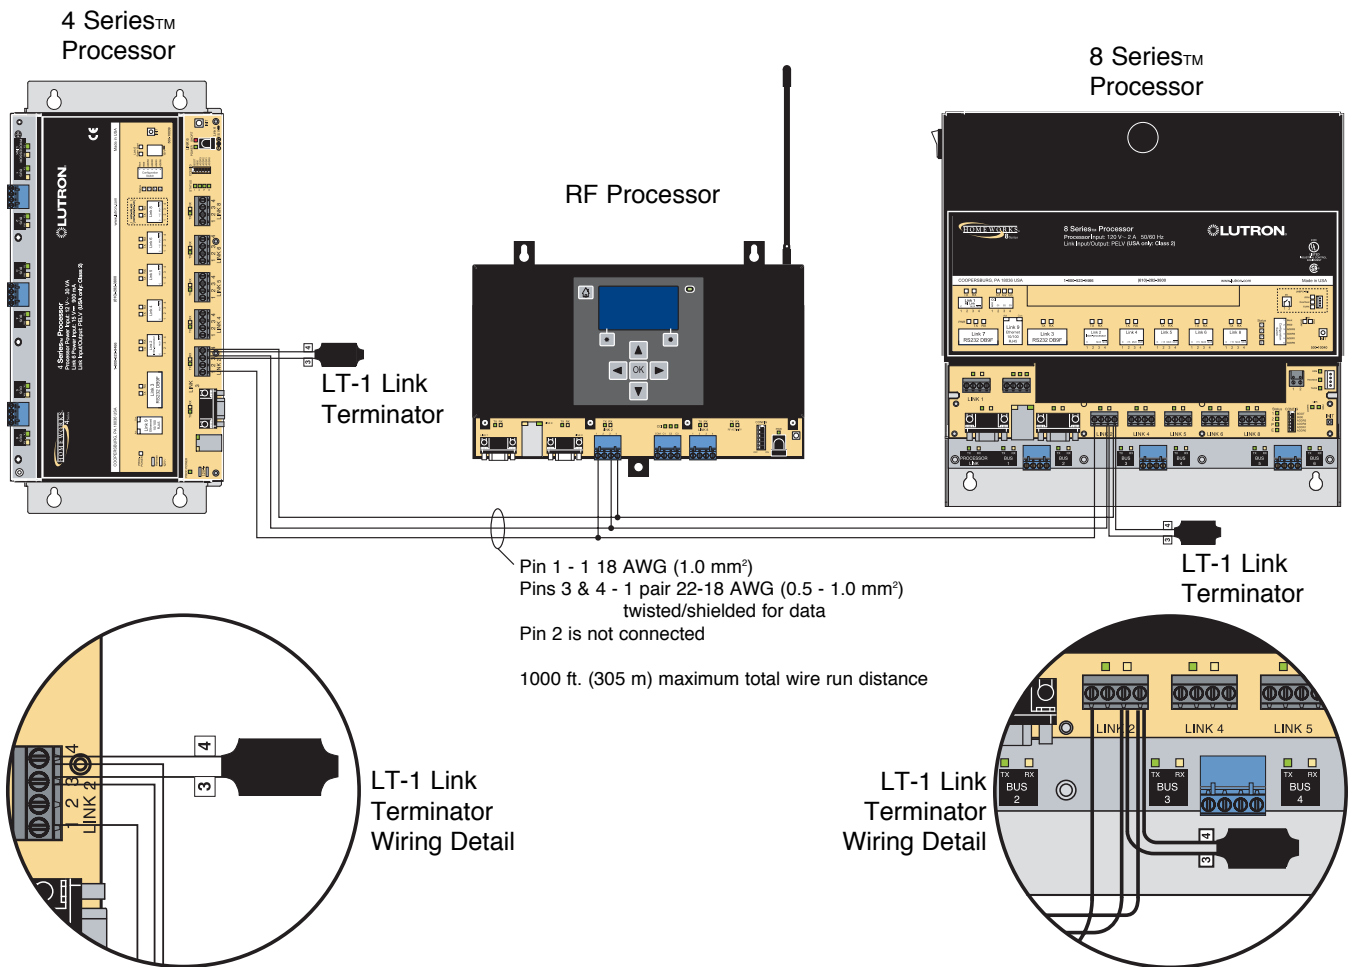

Figure 5 - Daisy Chained HomeWorks® Processors
5. **Connect Dimmer Hub links:** For the H4P5-H48-120 and H4P5-H48-HRL-120 models only, an internal harness connects Link 4 to the factory installed Dimmer Hub. If additional HWI-H48 or HWI-Q96 boards are to be controlled by the processor, the communication link to those boards should be connected into the Link 4 terminal block. Do not connect terminal 2 to an HWI-H48/Q96. If the H48/Q96 Link has a cable length of 50 feet (15 m) or more, LT-1 link terminators must be installed across MUX and MUX (terminals 3 and 4) at both ends of the link. Refer to HWI-H48 instructions (see also Figure 5, page 4).
6. **Connect Inter-processor Link (multiple processor installations only):** The Inter-processor Link is used for communication between HomeWorks Processors. Connect control wiring to the Inter-processor Link (Link 2), if required. Do not connect terminal 2 (see Figure 5, page 4). If this processor is to be the first or last processor in the daisy chain, attach one of the LT-1 link terminators provided across the MUX and MUX (terminals 3 and 4—see Figure 5, page 3). If LT-1 terminators are unavailable, a 1/2 W resistor between 100 and 150 Ohms may be placed across terminals 3 and 4 to provide termination.